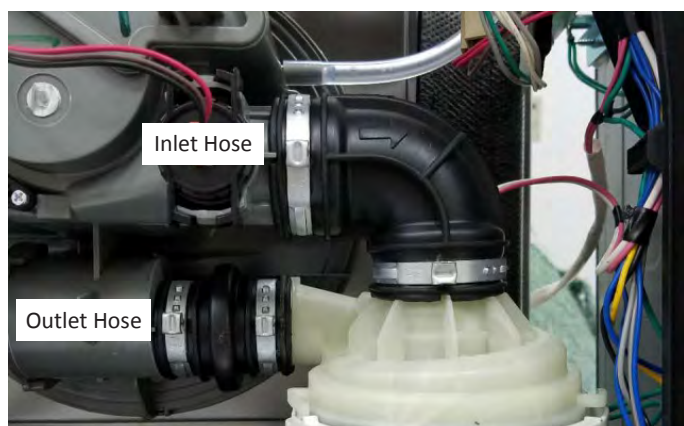

Figure 4
11. Remove the 2 clamps, sump outlet hose, and inlet hose from the sump. See Figure 4.